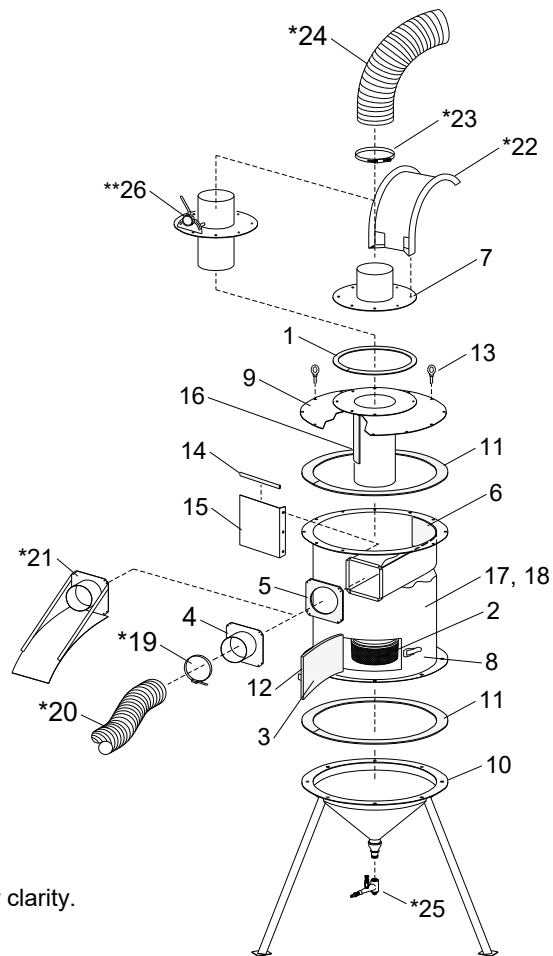

Figure 46
9.13 900 CFM Modular Reclaimer Replacement Parts – Figure 46